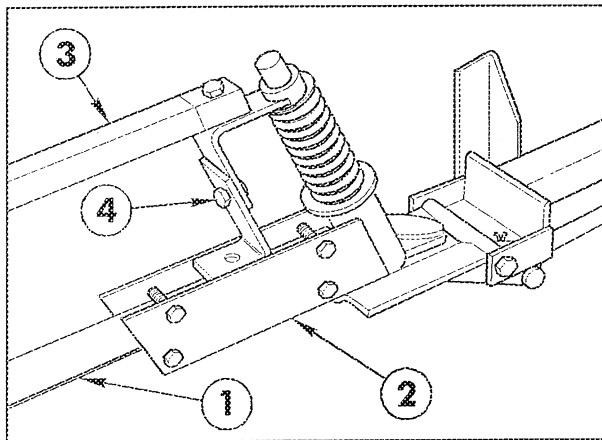

**FIG. 6**
9. Position the two (2) Center Boom angles on the Main Frame and secure them to the Main Frame Tube with two (2) square U-bolts, four (4) flat washers and hex nuts. (See FIG. 6, page 14)
10. Center and attach the Center Boom Pipe to the two (2) Center Boom Angle with two (2) clamps, (2) 3/8" x 1" cap screws, flat washers and lock nuts. Once mounted, the Center Boom Pipe should be approximately 20" from ground.
11. Loosely attach the Double Barb Turret Body with the Turret Body Clamp in the approximate center of the Center Boom Pipe. For the most uniform spray coverage, position all Nozzles level as shown in FIG. 6.
13. Place two (2) Hose Clamps on two (2) 3/4" x 19" Jumper Hoses and connect the two (2) "end" Turret Bodies to the Double Barb Turret Body. Space nozzles 20" apart and tighten fasteners securely. Apply thread sealer and install 90° 3/4" Hose Barb on the Threaded Turret Body. (See FIG. 6, page 14)
14. Attach the two (2) Strut Assemblies to the two (2) Adjustable Clevises found on each side of the Main Frame tube with (2) 1/2" x 2" clevis pins and two (2) 1/8" x 1" cotter pins. (See FIG. 6, page 14)
19. Adjust the Booms to a level position by adjusting the jam nuts on the adjustable clevis assemblies (See FIG. 6) to the desired position, then tighten the nuts against the Main Frame plate.